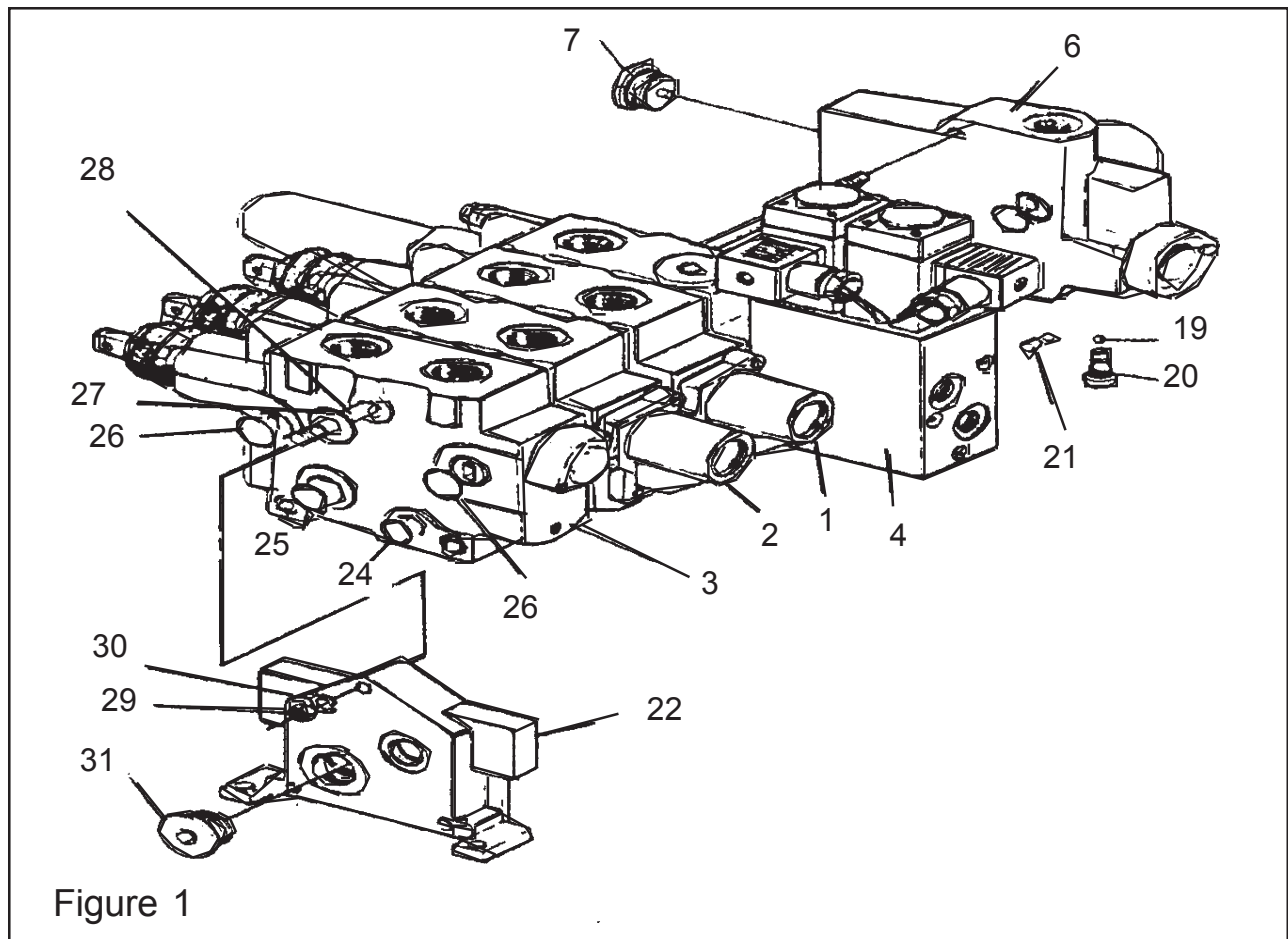

Figure 1
### Removal of Standard Valve: (see Figure 1)
1. Remove the spool control link of the standard valve section (item 3) at the control shaft arm by removing the cotter pin and the drilled in on the end of the valve section.
3. Remove the valve assembly support bolt on right hand side. Remove nuts and lockwashers from the three valve tie bolts (item 29 & 30).
4. Remove the Valve end section (item 22). Note there are shims between each section on the same side as the O-Rings, one shim per tie bolt, do not lose them (See Figure 1).